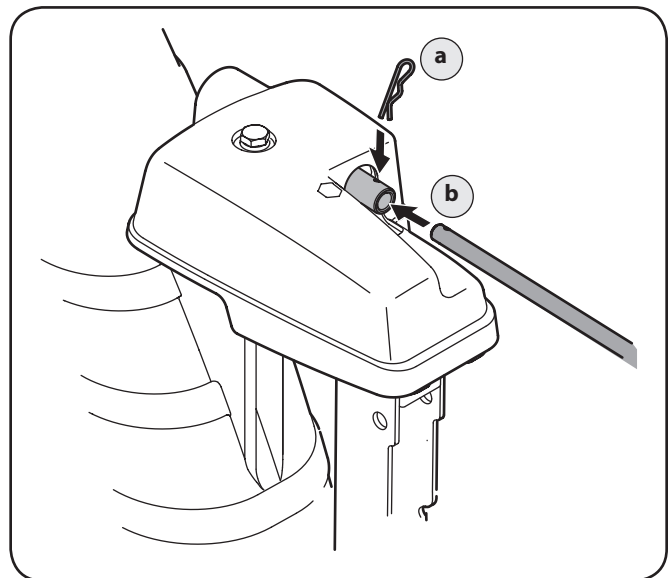

**Fig. 3-5**
- Finish securing chute control assembly to chute support bracket with wing nut and hex screw removed earlier. See Fig. 3-5.